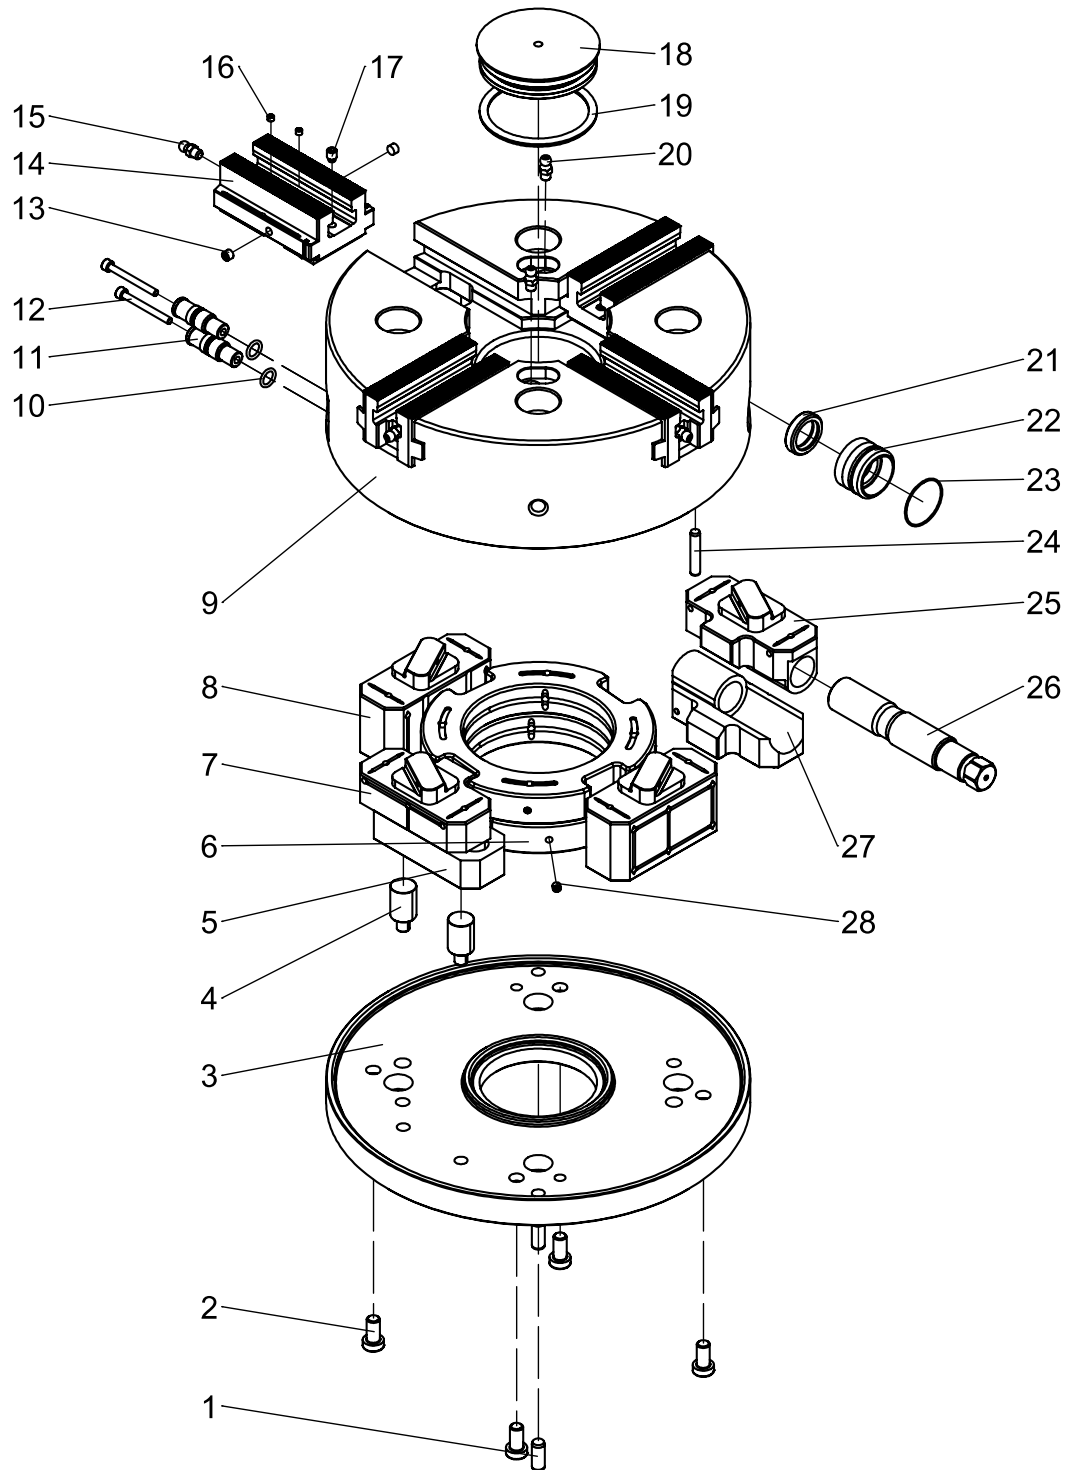

Fig. 8-1: Spare parts (VM021 – VM040)
- Step 1** Look for the desired part in figure 8-1